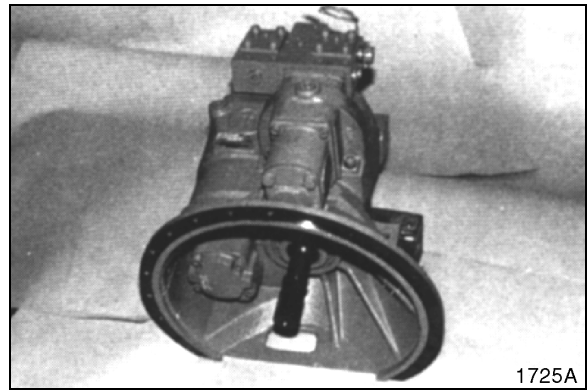

Figure 131
4. Assembly is shown complete in Figure 131.